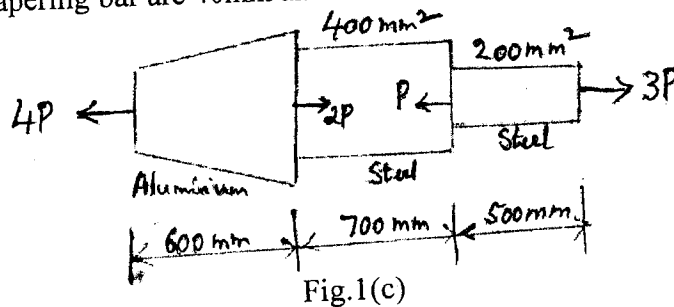

Fig.1(c)
- c. A round bar with stepped portion is subjected to the forces as shown in fig.1(c). Determine magnitude of force P, such that net deformation in the bar does not exceed 1mm. E for steel is 200 GPa and that for Aluminium is 70 GPa. Big end diameter and small end diameter of the tapering bar are 40mm and 12.5mm respectively. (10 Marks)